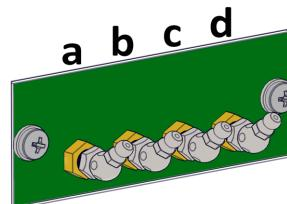

Figure 34 - Greasing Panel
1. Locate the greasing panel (Figure 34).